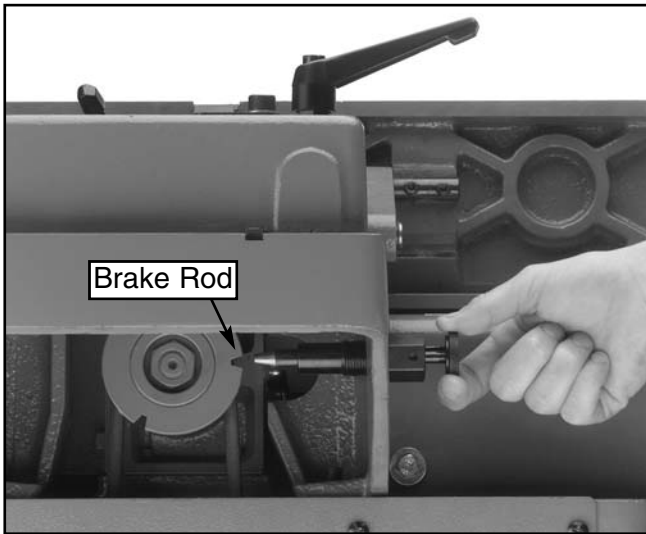

Figure 8. Engaging the brake rod.
2. Carefully turn the cutterhead (using the pulley) until the first knife is at top dead center. Engage the brake rod to secure the cutterhead into a stationary position as shown in **Figure 8**.